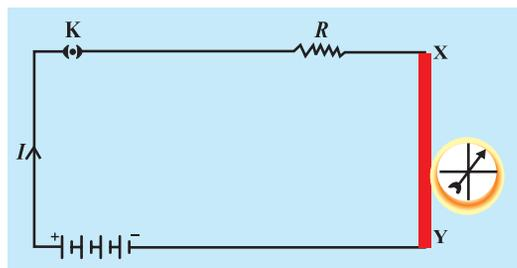

Fig 4.1
- Take a straight thick copper wire and place it between the points X and Y in an electric circuit, as shown in Fig. 4.1.